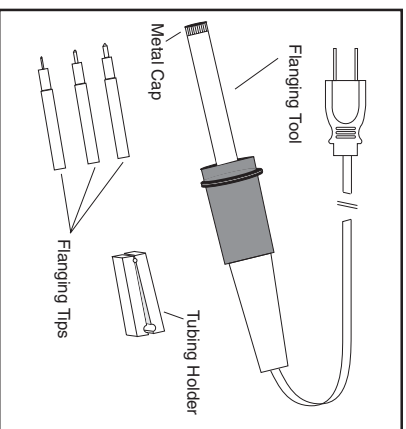

Figure 1
1. Prior to heating, unscrew the metal cap on the end of the flanging tool (Figure 1).